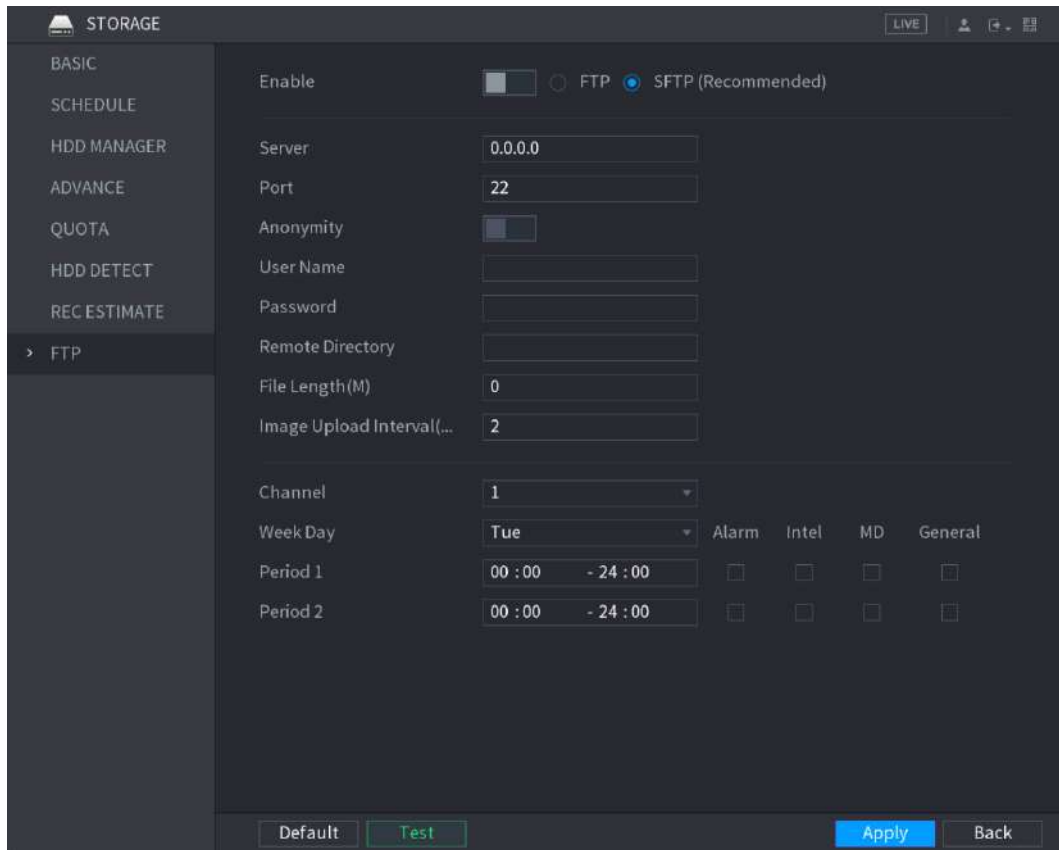

Figure 5-238
Step 1 Select **Main Menu > STORAGE > FTP**. The **FTP** interface is displayed. See Figure 5-238.